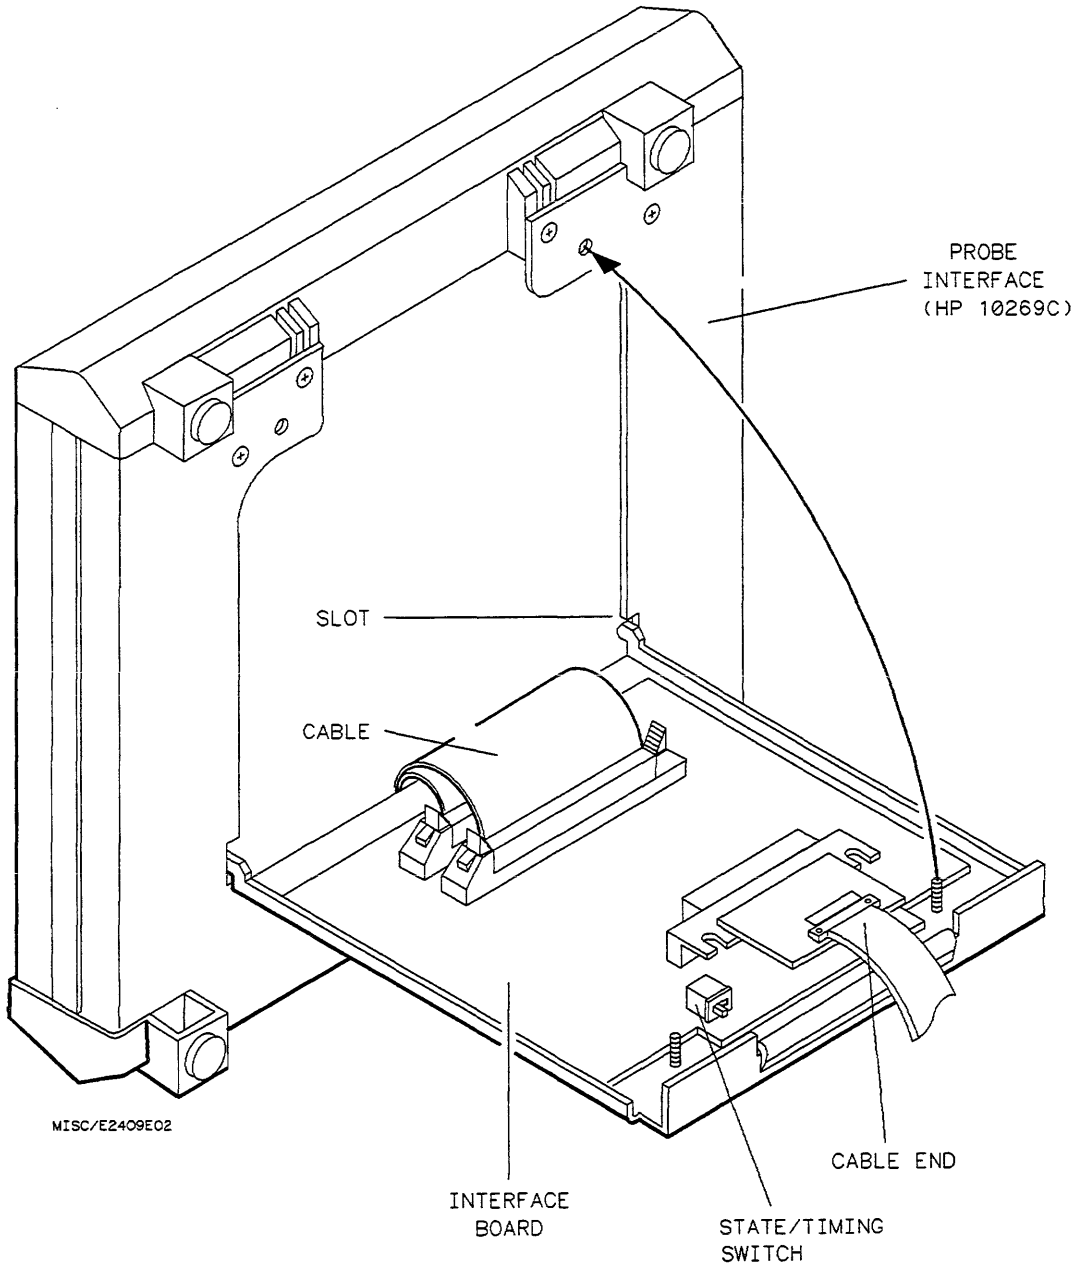

Figure 1-2. Installing the HP E2409B in the HP 10269C
1. Insert the metal tabs of the preprocessor interface board in the slots of the probe interface as shown in figure 1-2.